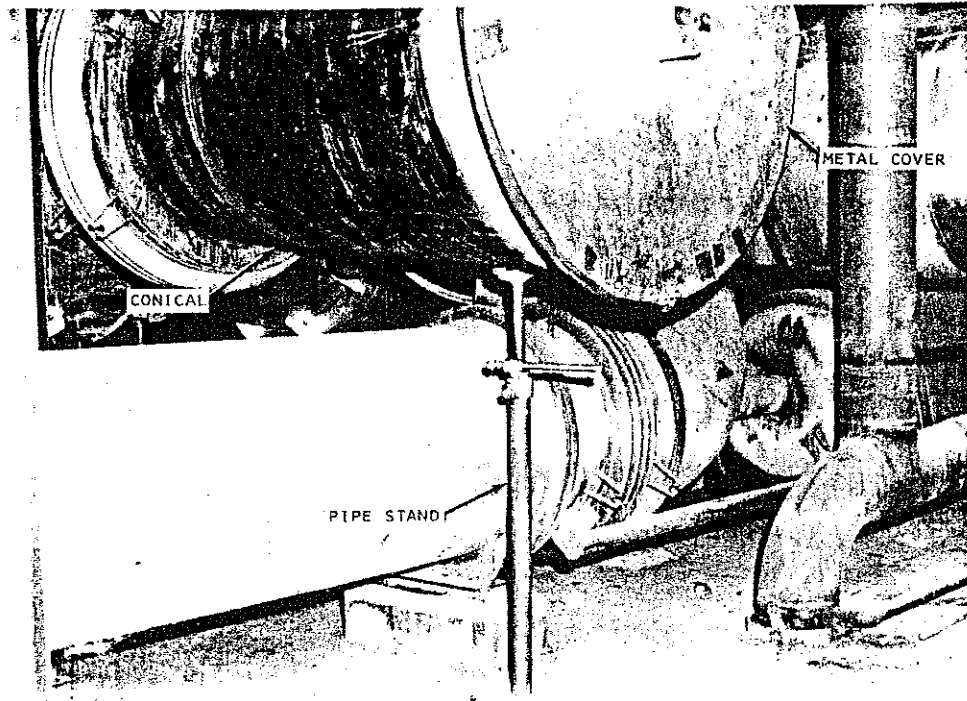

FIG. 3. CONICAL SUPPORT
- e. Position and install come-along or pipe stand to support cell piping (conical) while scarfing (see Figures 3 & 4).